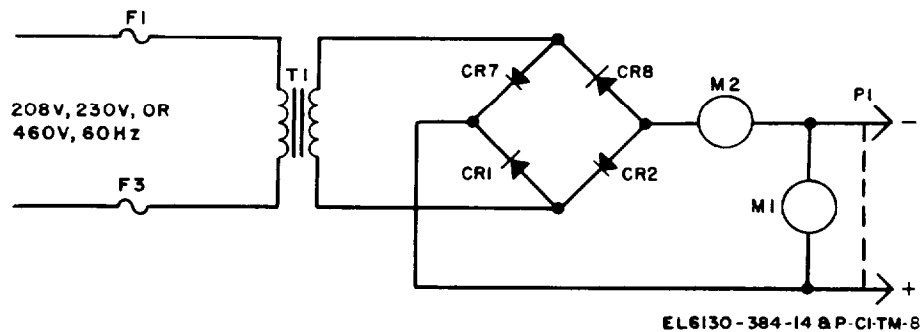
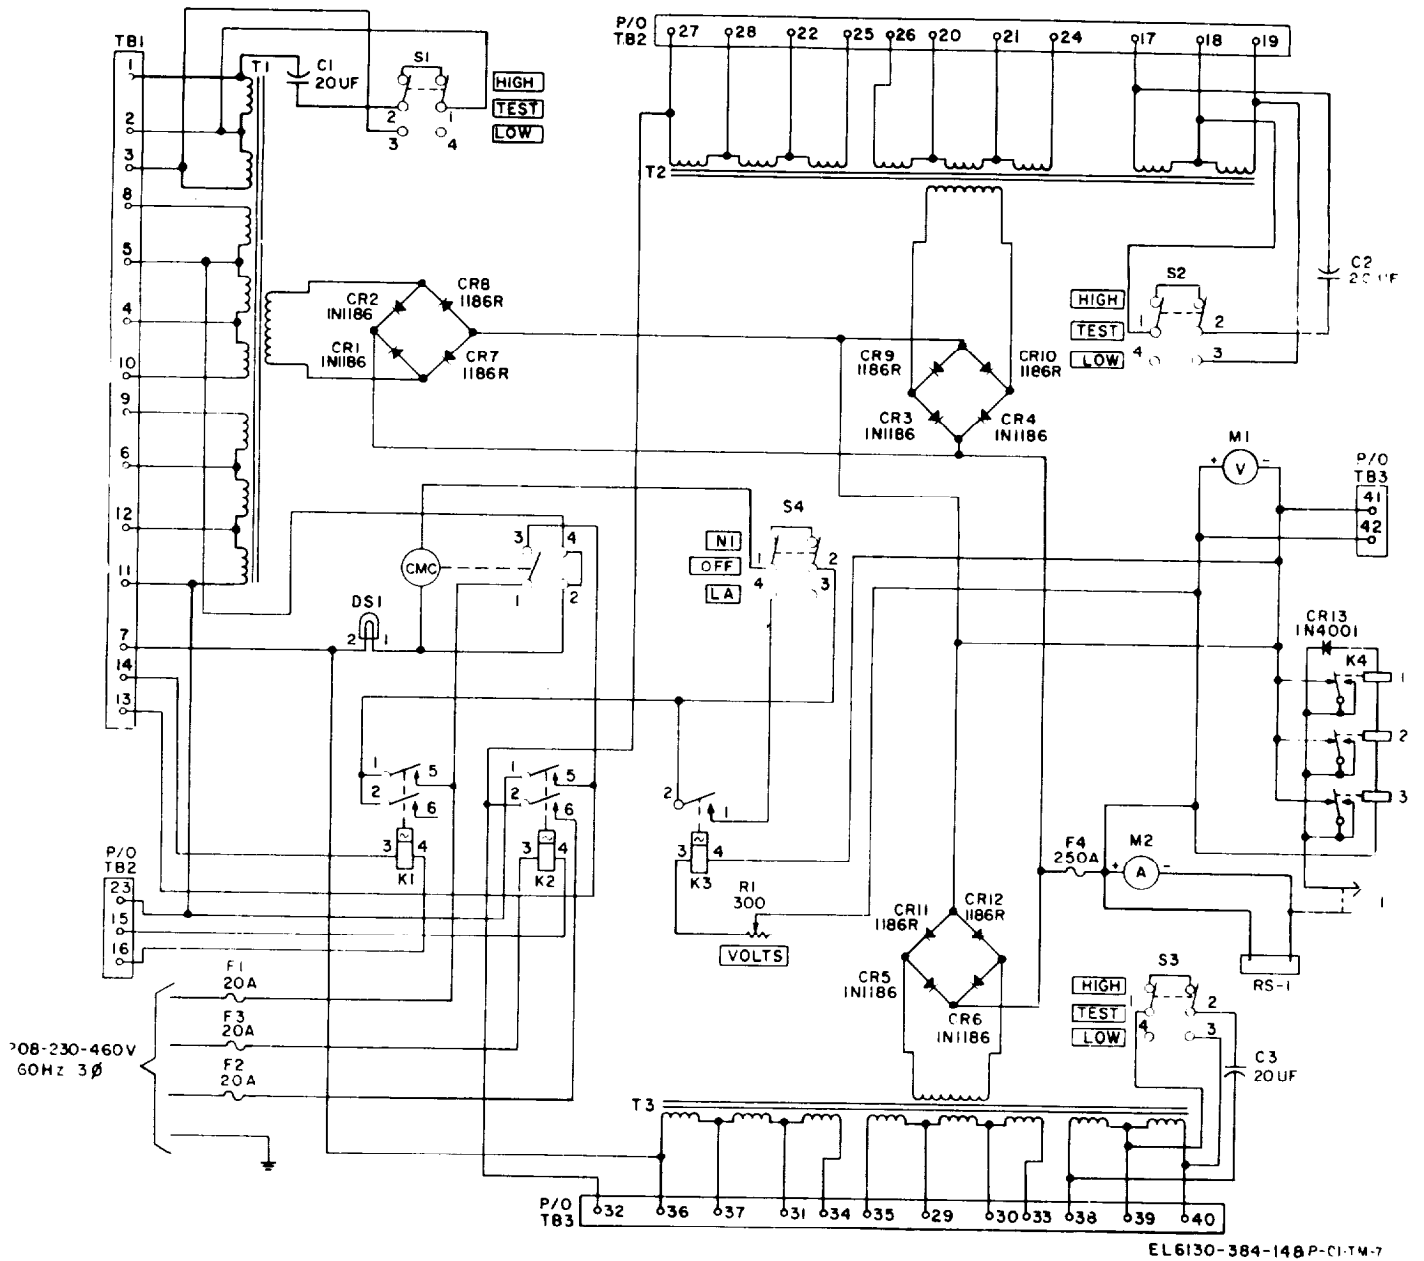
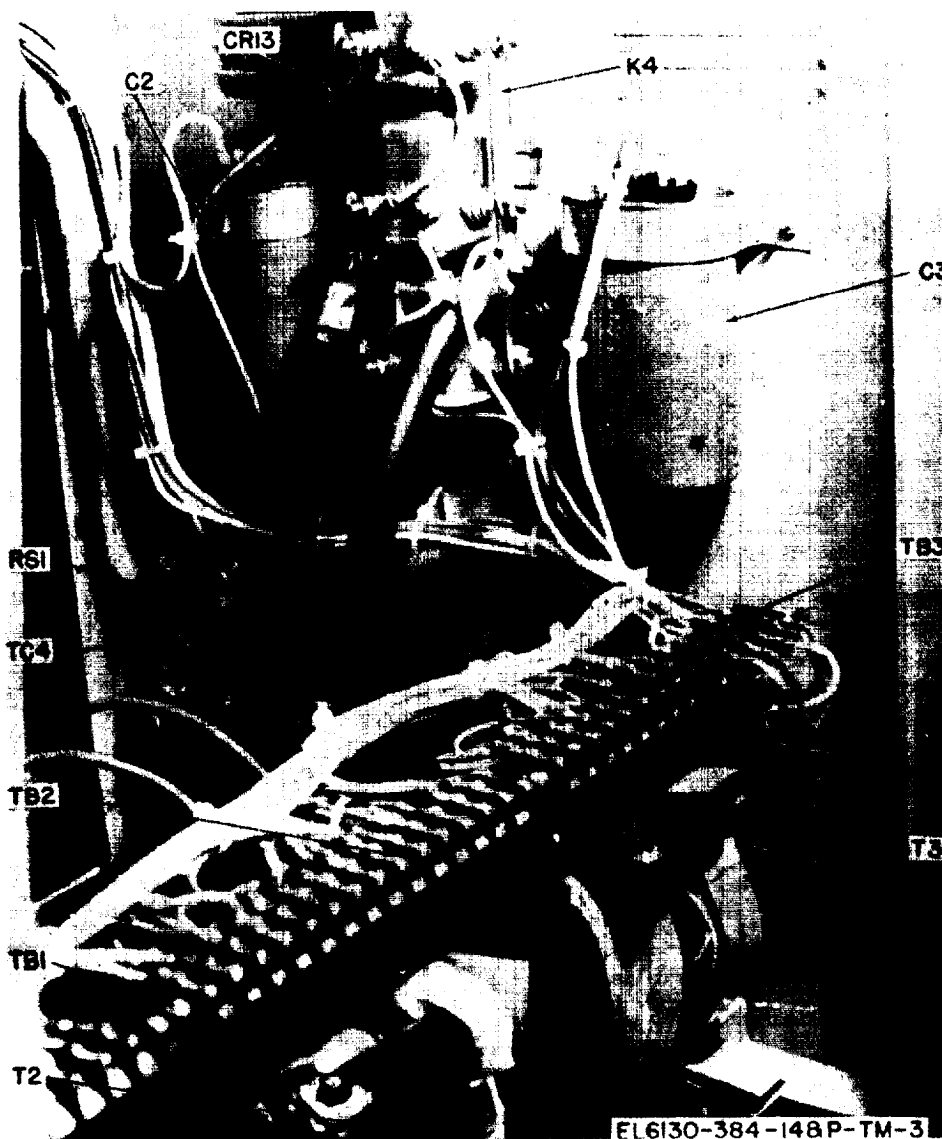

Figure 5-1. Simplified schematic diagram.
Figure 5-3. Battery Charger PP-2926B/U, schematic diagram
Figure 6-1. Left side of cabinet, location of parts.
Battery Charger PP-2926B/U is basically three transformers, one for each of three phases, with a bridge-type rectifier, in parallel, across each transformer secondary (fig. 5-1). Jumpers on the
There are three identical circuits for the three phases. The circuit function of one described below is the same for all three (fig. 5-1). The complete schematic diagram is shown in (fig. 5-3).
(1) Visual inspection. The purpose of visual inspection is to locate faults without testing or measuring circuits. All meter readings on the front panel of the battery charger should be observed and an attempt made to sectionalize and localize the fault to a particular part.
(2) Operational test. Operational tests frequently indicate the general location of trouble. In many instances, the tests will help in determining the exact nature of the fault. The operational procedure given in chapter 3, with the normally expected indications called out in the procedures, provide good operational tests.
(3) Troubleshooting table. The troubleshooting table (table 6-3) lists symptoms of common troubles and gives the corrective measures or references. The table cannot include all trouble symptoms that may occur; therefore, the repairman should use this table as a guide in analyzing symptoms that may not be listed.
(4) Component locations. Figures 6-1, 6-2, and 6-3 show the component locations on the battery charger.
a. General. Troubleshooting table 6-3 outlines procedures for localizing troubles within the various circuits of the battery charger. Refer to figures 6-1, 6-2, and 6-3 for parts location. Refer to the overall schematic diagram (fig. 5-3) to identify circuit components. Depending on the nature of the operational symptoms, one or more of the localizing procedures will be necessary. When the trouble has been localized to a particular circuit, use voltage and resistance measurements to isolate the trouble to a particular part.
and replaced without special procedures. Refer to figures 6-1, 6-2, and 6-3 for the location of all parts. Connect replaced items according to the schematic diagram (fig. 5-3) and the parts location diagrams.